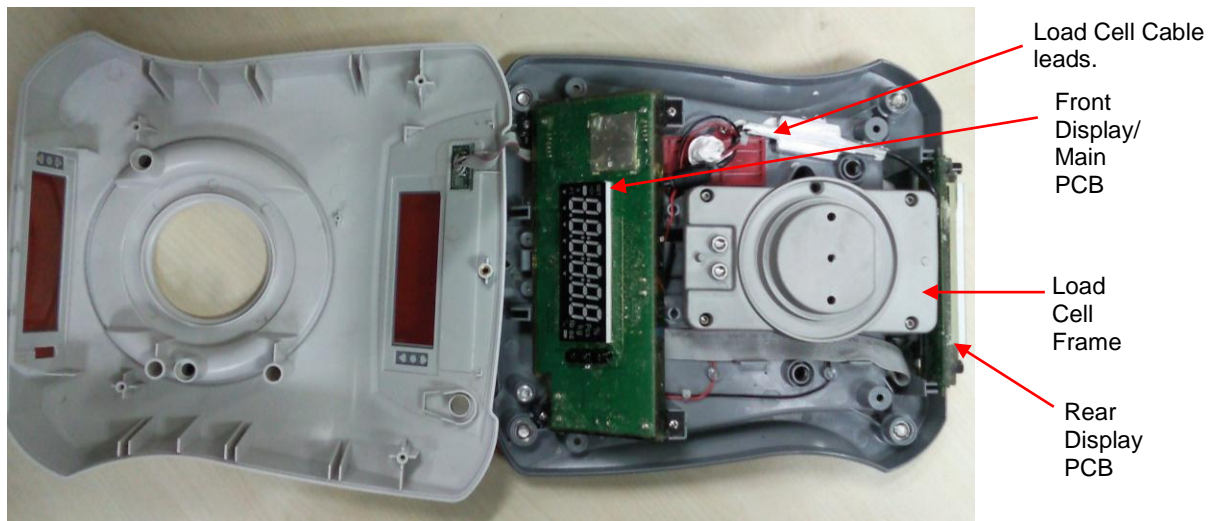

Figure 3-2. Top and Bottom Housings
(See Figure 3-2.)
1. Unplug the cable leads connecting the Load Cell to the PCB. (See Figure 3-2.)
5. Connect the Load Cell cables to the PCB. (See Figure 3-2.)